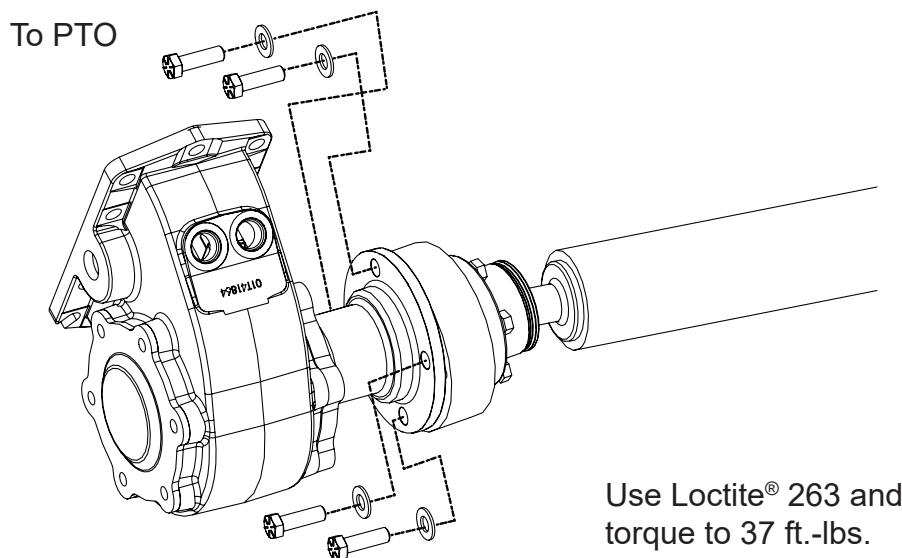

Figure 8
2. Starting on the PTO connection side, apply Loctite® 263 to the new four (4) bolts (PN 1140169).
3. Use the bolts and new four (4) lock washers (PN 0120302) to install the CV shaft to the PTO (Figure 8).
4. Use a torque wrench to torque each bolt to 37 ft.-lbs. (Figure 8).